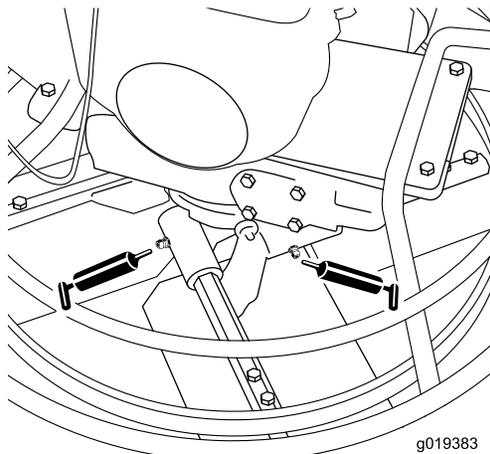
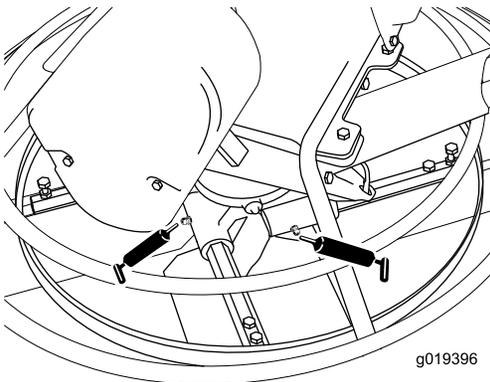

Figure 14
Figure 15
2. Pump several shots of grease into each fitting until it starts to ooze out of the bearing (Figure 14 and Figure 15).